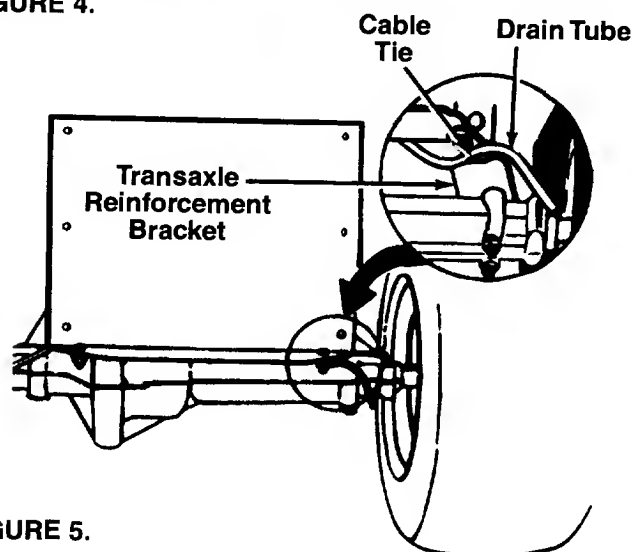

FIGURE 5.
7. Route the drain tube through the opening between the transaxle reinforcement bracket and the frame on the right rear of the unit. Insert the drain tube to the transaxle reinforcement bracket through the cable tie which is attached as shown in figure 5. Be certain drain tube is routed away from the wheel rim.